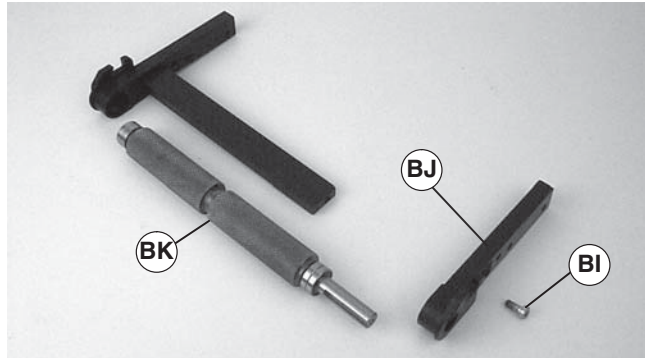

Figure 32
6. Remove screw (Figure 32, item BI).
7. Remove headplate (BJ).
8. Remove pulley (BK).